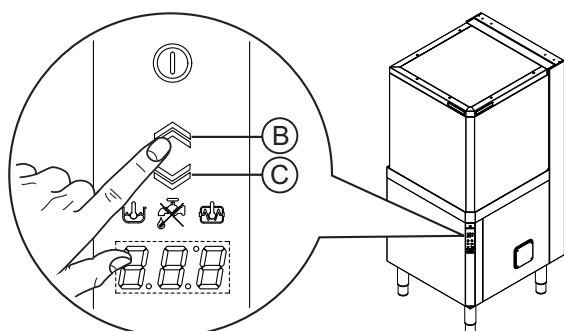

Figure 23 Automatic hood opening/closing
- **With automatic machines, press the button "B" to open the hood and button "C" (Figure 23) to close it.**